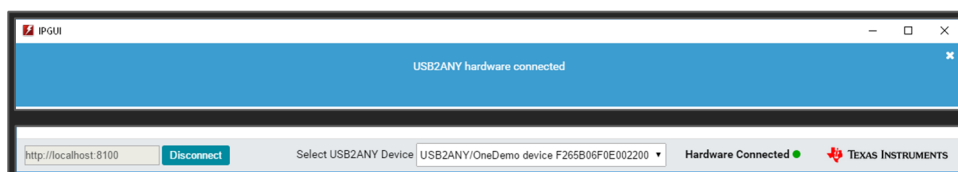

Figure 17. Successful Connection Between Computer and USB2ANY
- Verify that the software is connected to the USB2ANY as shown in Figure 17.